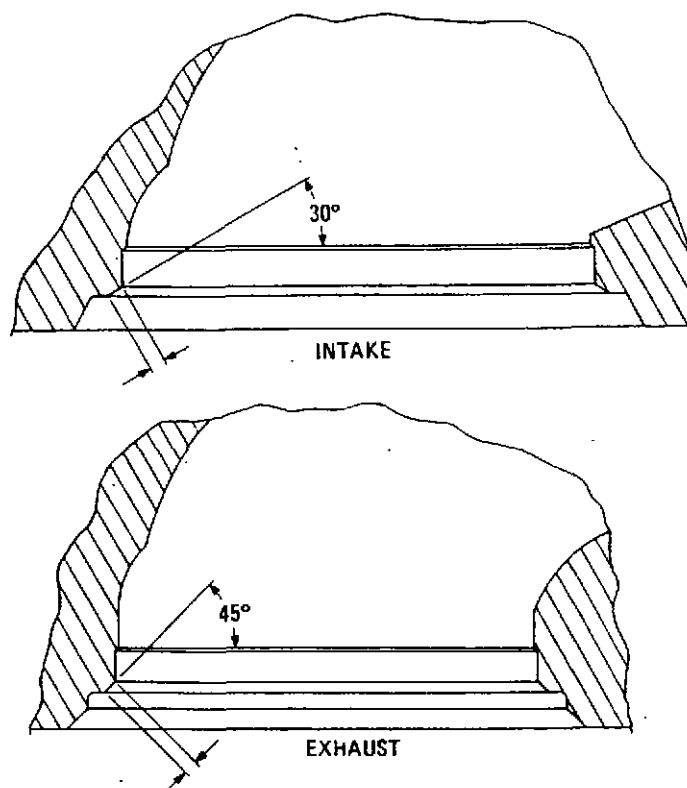

Figure 5-22. Valve Reseating Dimensions
2. If the valve seats are pitted or if new valve guides have been installed, the seats must be refinished. The intake valve seats are finished on a 30-degree angle and the exhaust valve seats are finished on a 45-degree angle. Use a vibrating angle grinder-type reseating tool with a 3/8-inch diameter pilot. Lightly lubricate and install the pilot into the valve guide bore. Lower the grinder head over the pilot shank until the stone just clears the valve seat. Turn on the power and gently allow the stone to contact the valve seat. Very little pressure other than the weight of the stone should be used. Grind the seat sufficiently to remove shoulders and pits, and to provide an even, smooth surface. Do not grind any deeper than necessary. The finished valve seat should contact the approximate center of the valve face. Refer to figure 5-22.